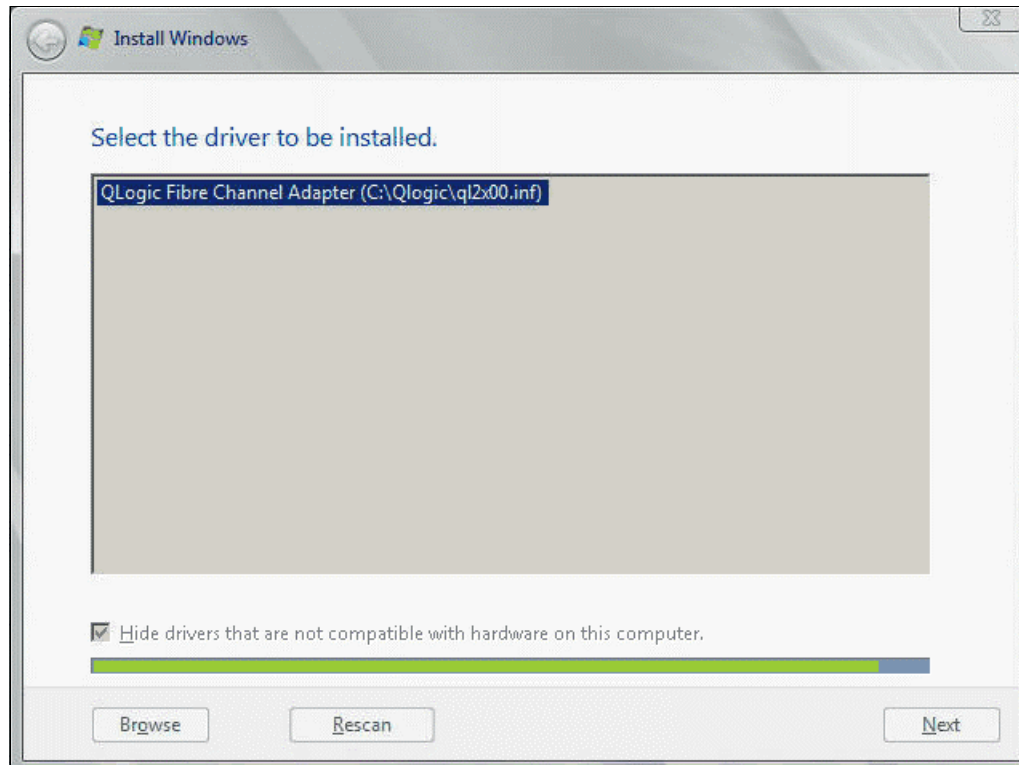

Figure 5-75 Install QLogic Driver
7. Browse to the source (media) of the HBA driver package. Notice the check box that would hide the drivers which it deems not compatible, as shown in Figure 5-75.